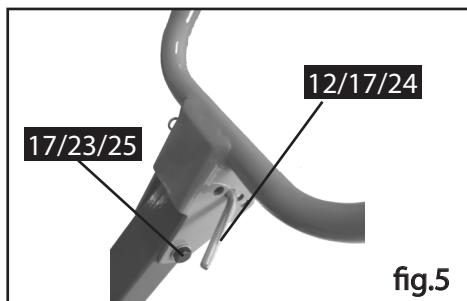

fig5
4. Install the handle on the girder with M 8*70 screw, washer and flange nut, then insert the lock lever in desired position to secure the top of handle(Fig.5).